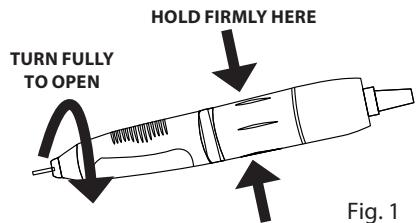

Fig. 1
1. To open chuck, rotate upper handpiece housing into open position (Fig. 1) until it clicks.